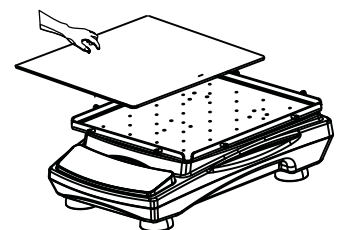

figure 3
3. Place nonslip rubber mat onto the platform as shown in the figure 3.